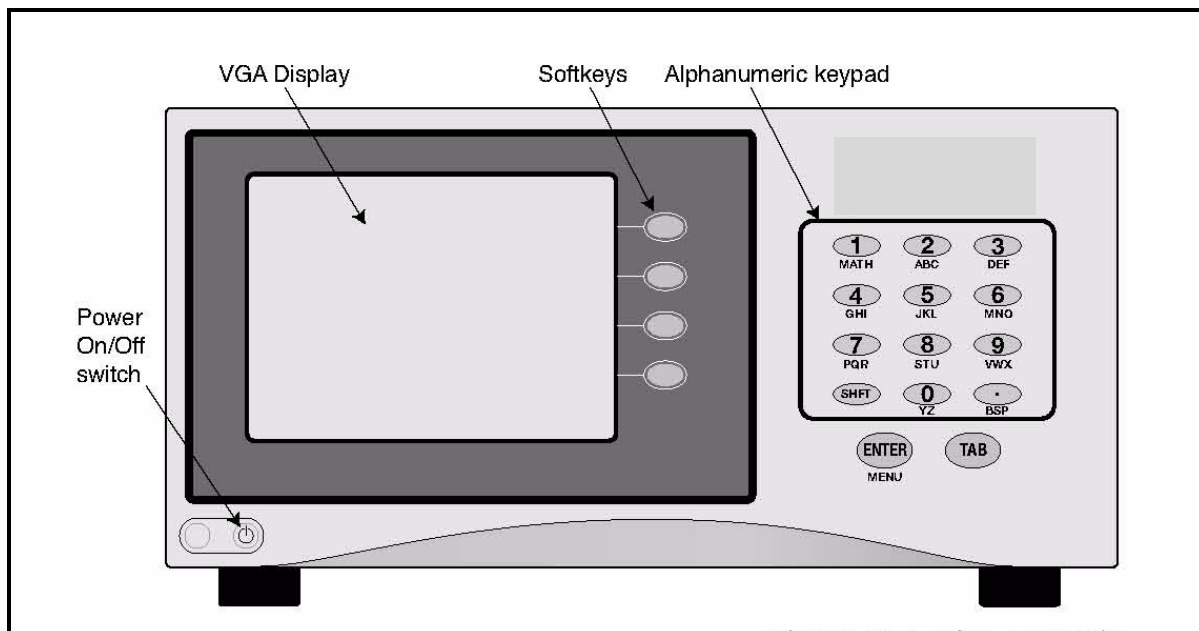

Figure 1-1: *Optica* Benchtop Version with VGA Display
The *Optica*'s front panel is shown in Figure 1-1 below. The panel includes: a display, an alphanumeric keypad for data entry, ENTER and TAB keys, and four softkeys to the right of the display screen.
- a high-resolution full-color liquid crystal display (LCD) with data graphing and on-screen programming capability (referred to as the "VGA" unit). See Figure 1-1 below.